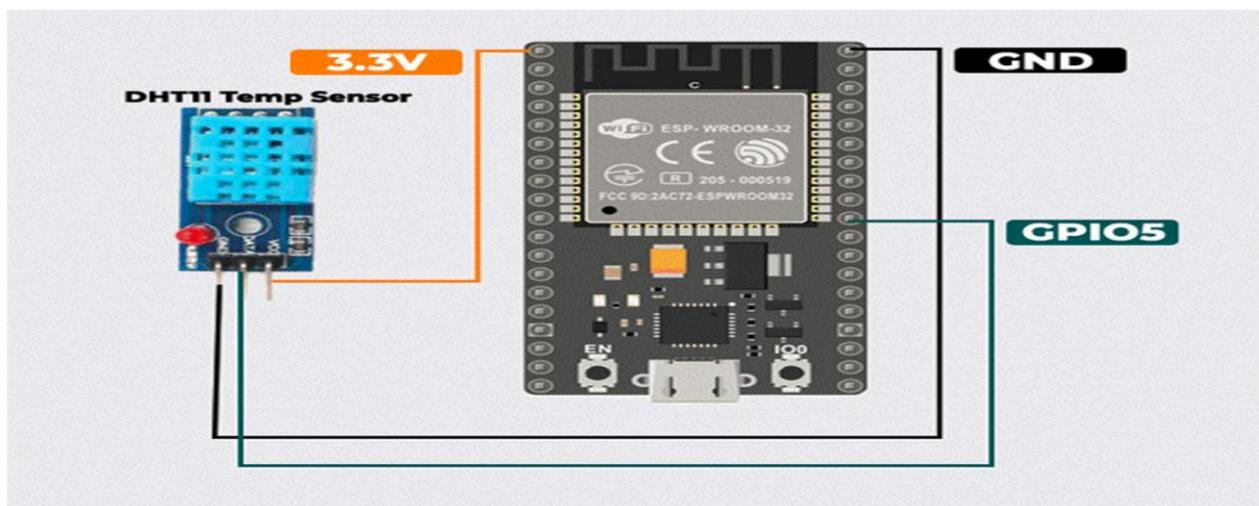

Fig 28.1 Circuit diagram to interface Temperature sensor with NODE MCU
1. Interface temperature sensor to ESP32 as per circuit diagram shown in fig 28.1